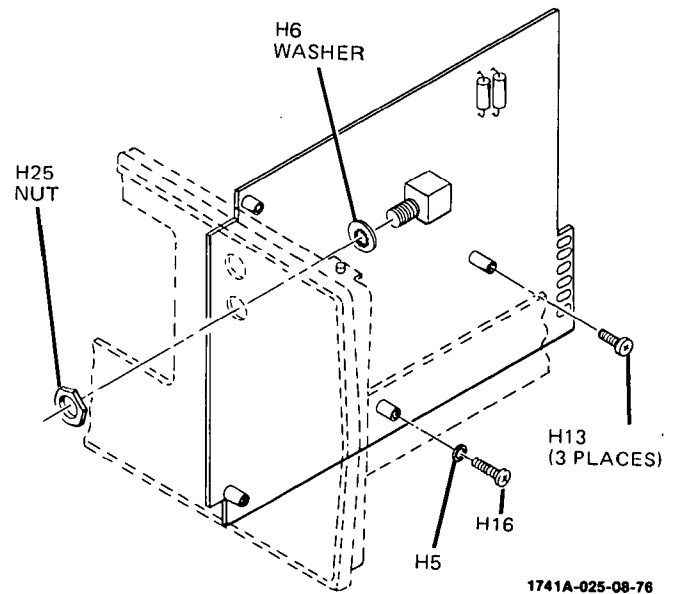

Figure 8-7. Location of A7 Attaching Screws
- f. Disconnect wires (93), (1), (6), and (97) from back of A7.
- g. Disconnect wire (7) from component side of A7.
- j. Remove four screws holding A7 to sheet metal (figure 8-7).